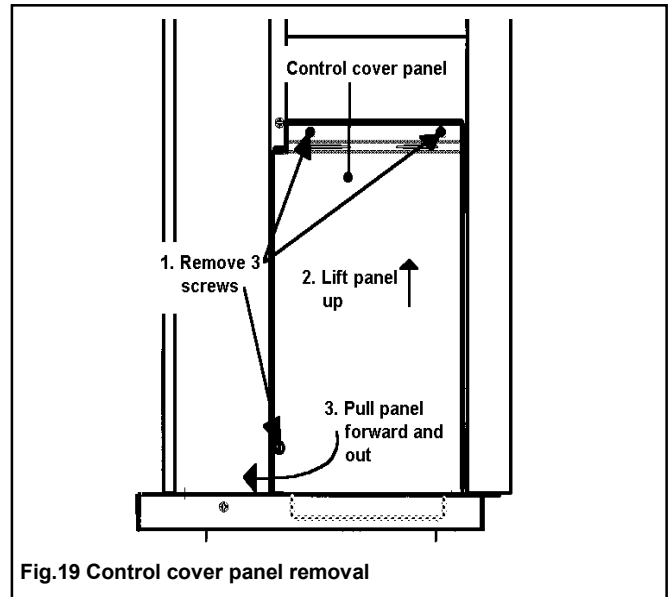

Fig.19 Control cover panel removal
11.3 Detach the control cover panel (see figure 19):-